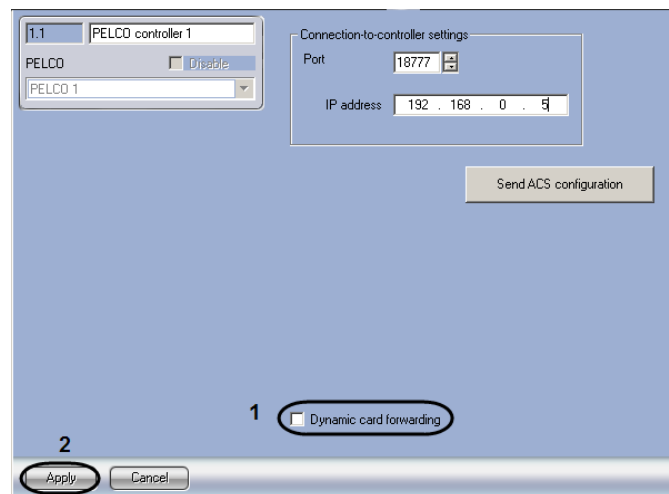

Fig. 3.6—1 Configuring dynamic card forwarding
1. Go to the **Pelco Controller** settings panel (Fig. 3.6—1).
2. **Dynamic card forwarding** (Fig. 3.6—1, 1).
3. Click the **Apply** button (Fig. 3.6—1, 2).